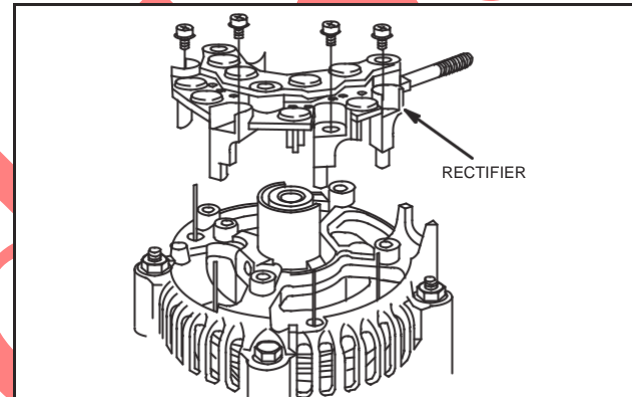

Fig. 39 – Install Rectifier
5. Align stator wires with holes in rectifier and assemble rectifier to brush end housing, Fig. 39.